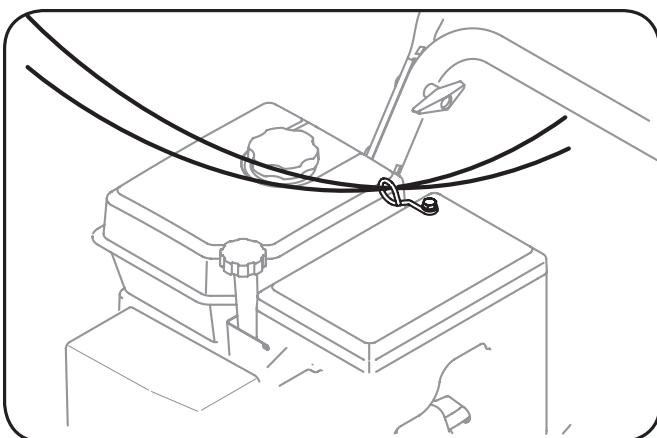

Fig. 3-8
- Check that all cables (if equipped) are properly routed through the cable guide on the right side of the chute crank rod. See Fig. 3-8.